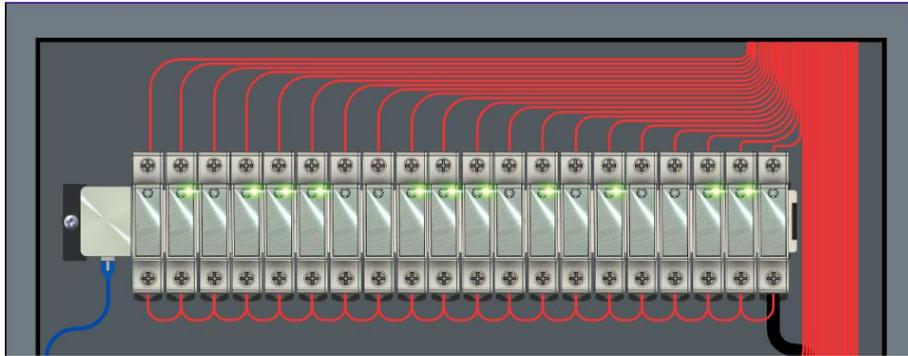

Figure 5 Fully Charged EBQ tags show Green blinking lights
4. **Red** LED start blinks indicate EBQ tags are charging, it switches on (fully charged) by showing Green blinking light and producing a “Tik” sound as shown in Figure 5.